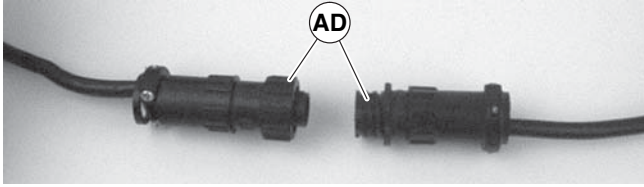

Figure 23
3. For DC variable speed motor, unplug motor cord at disconnect (Figure 23, item AD).